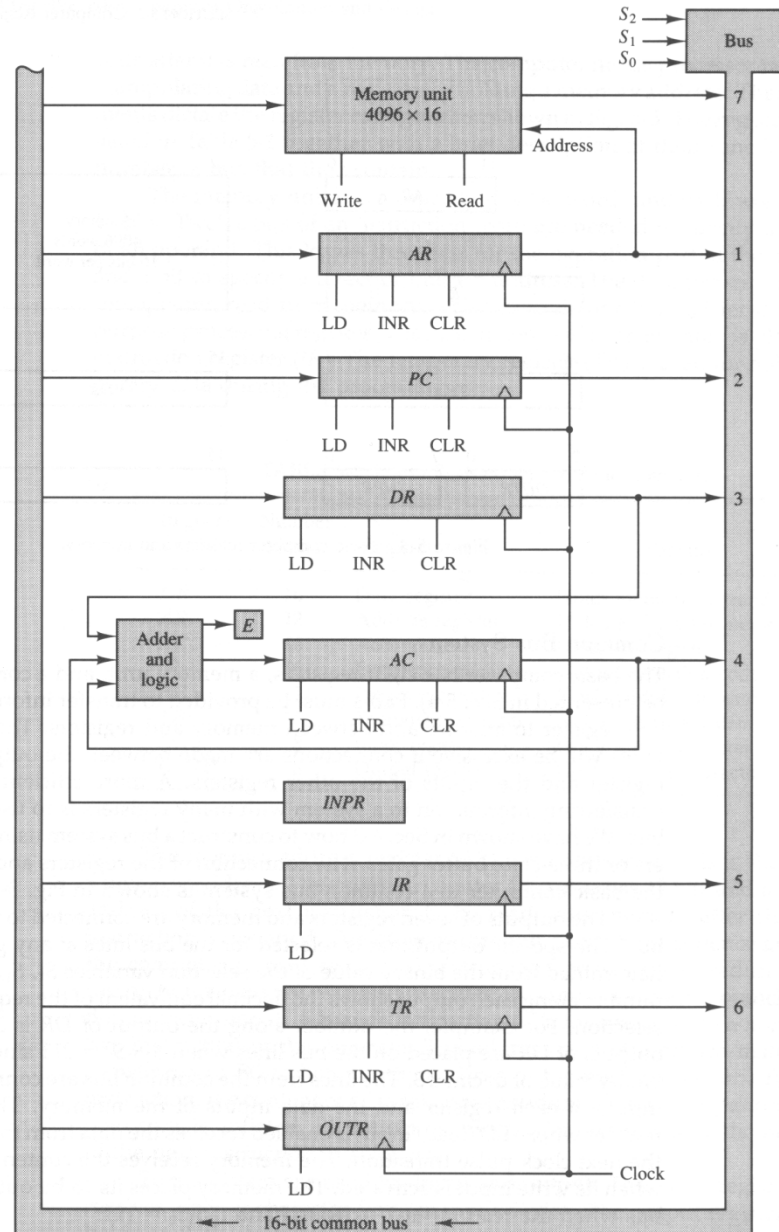

Figure 5-4 Basic computer registers connected to a common bus.
- 5-3. The following control inputs are active in the bus system shown in Fig. 5-4. For each case, specify the register transfer that will be executed during the next clock transition.